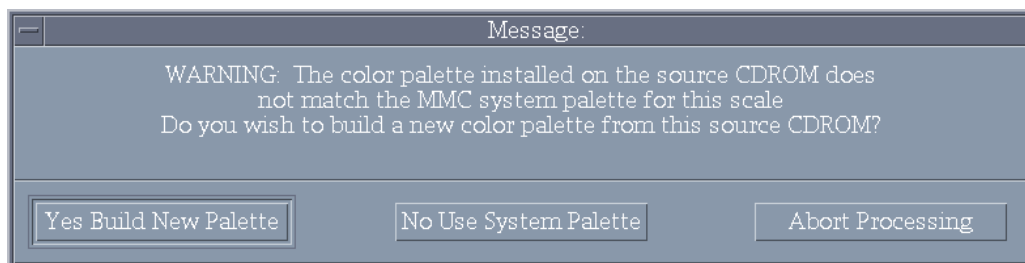

Fig. 19 – New color palette dialog
- f. This CD-ROM contains a new color palette file, so a warning dialog box (Fig. 19) will appear stating that the color palette installed on the CD-ROM does not match the MMC system palette. Click on *Yes Build New Palette*.